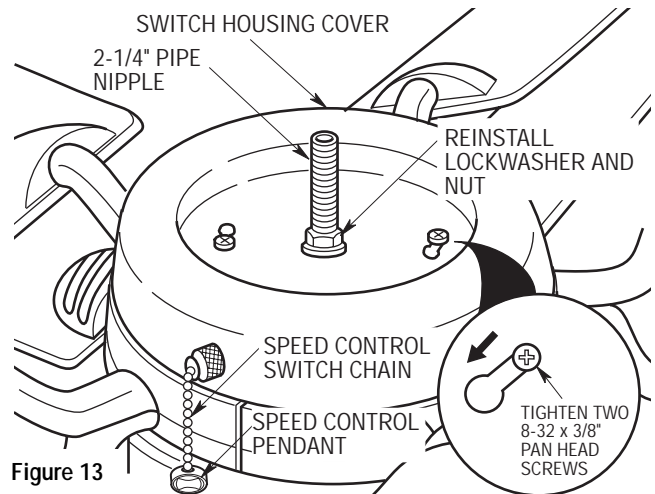

Figure 13
- 20. Screw the 2-1/4" pipe nipple (supplied) several full turns into the switch housing cover (Figure 13). Reinstall and tighten the lockwasher and nut onto the nipple (Figure 13).
- 21. Pass the speed control switch chain from the switch housing through the chain bushing in the switch housing cover (Figure 13). Attach the speed control pendant to the pull chain using a plastic coupler.
- 22. Make sure all wires and wire connectors are inside the switch housing, then position the switch housing cover on the switch housing so that the two 8-32 x 3/8" pan head screws (previously installed) protrude through the keyhole slots in the switch housing cover. Turn the switch housing cover clockwise to engage the slots, then securely tighten the two screws (Figure 13).